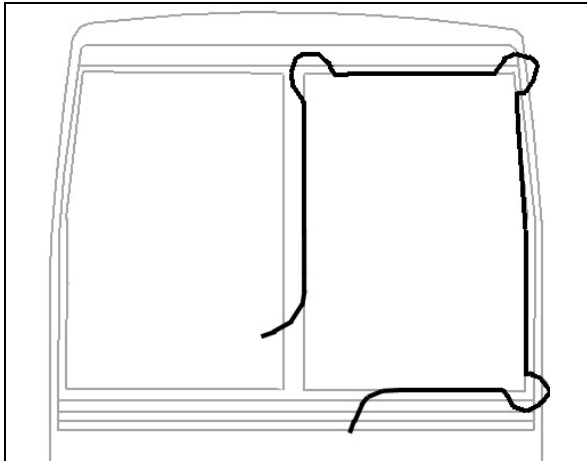

FIGURE 52: WINDSHIELD INSTALLATION USING ROPE
- Insert rope into rubber extrusion leaving enough length at each corner to make a loop. Spray soapy water onto rope and rubber extrusion (Fig. 52).